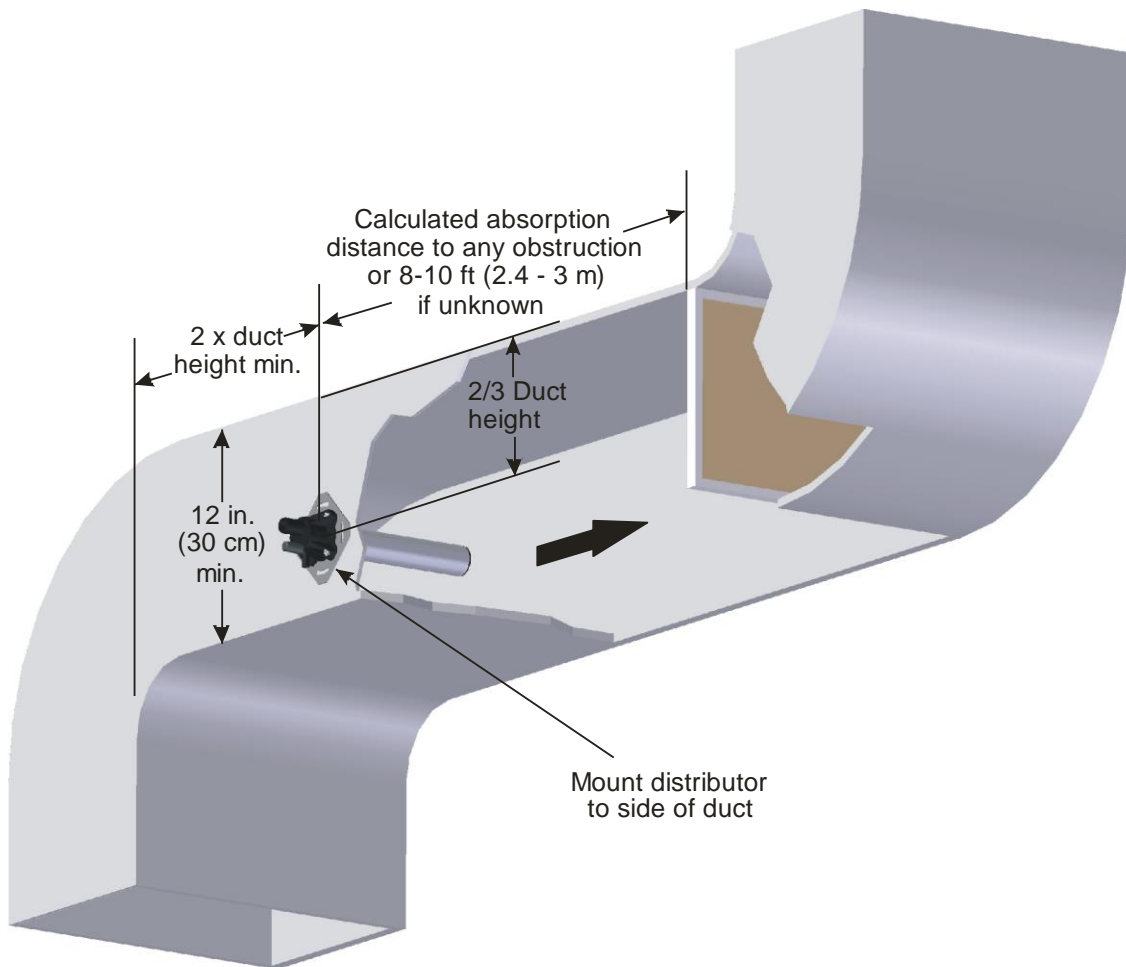

Figure 8: Distributor Location in Duct
- Figure 8: Distributor Location in Duct provides common guidelines for locating a steam distributor in a duct.